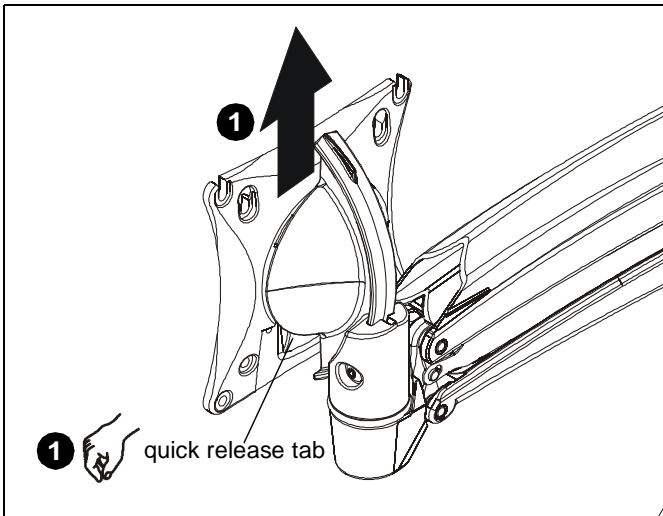

Figure 7
1. Remove quick release faceplate from mount by pressing quick release tab and sliding faceplate off mount. (See Figure 7)